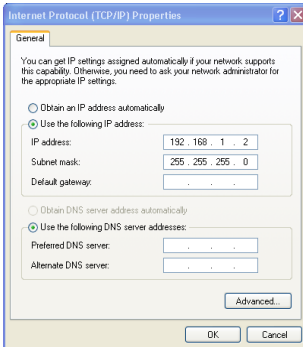

Figure 29: Internet Protocol (TCP/IP) Properties Window
6. Select **Use the following IP Address**, and fill in the details as shown in Figure 29. You can use any IP address in the range 192.168.1.1 to 192.168.1.255 (excluding 192.168.1.39) that is provided by your IT department.